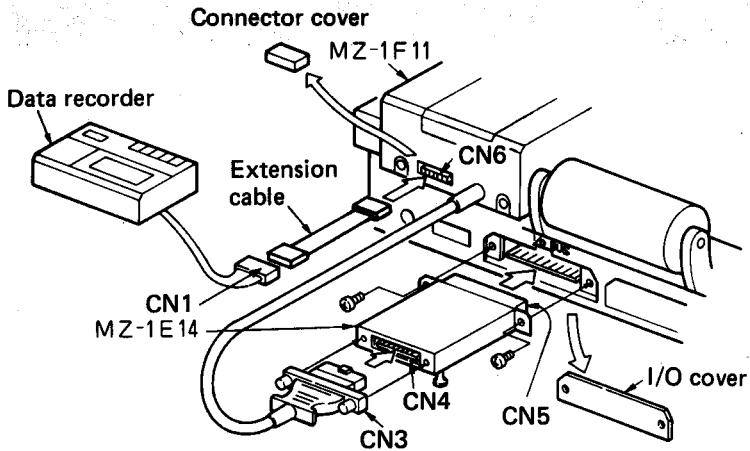

Figure 4
Note: When the data recorder is to be used, connect it to the MZ-1F11 connector. (See Figure 4 for details.)
3. Connecting the MZ-1E14 and the MZ-1F11 (Figure 4)
4. Connecting the Data Recorder (Figure 4)